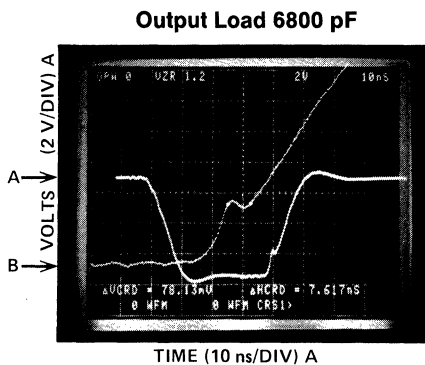

Figure 1
2. There occurs a small "notch" in the rising waveform of about 5 ns in duration. It only occurs with loads above 4000 pF and is not normally of any concern. In Figure 1, wave form A shows the output of the TSC429 with a 6800 pF load. The "notch" is noticeable in the rising waveform; and waveform B is a magnified view of that rising edge. Note that if the "notch" were not there the rise time would not substantially change.